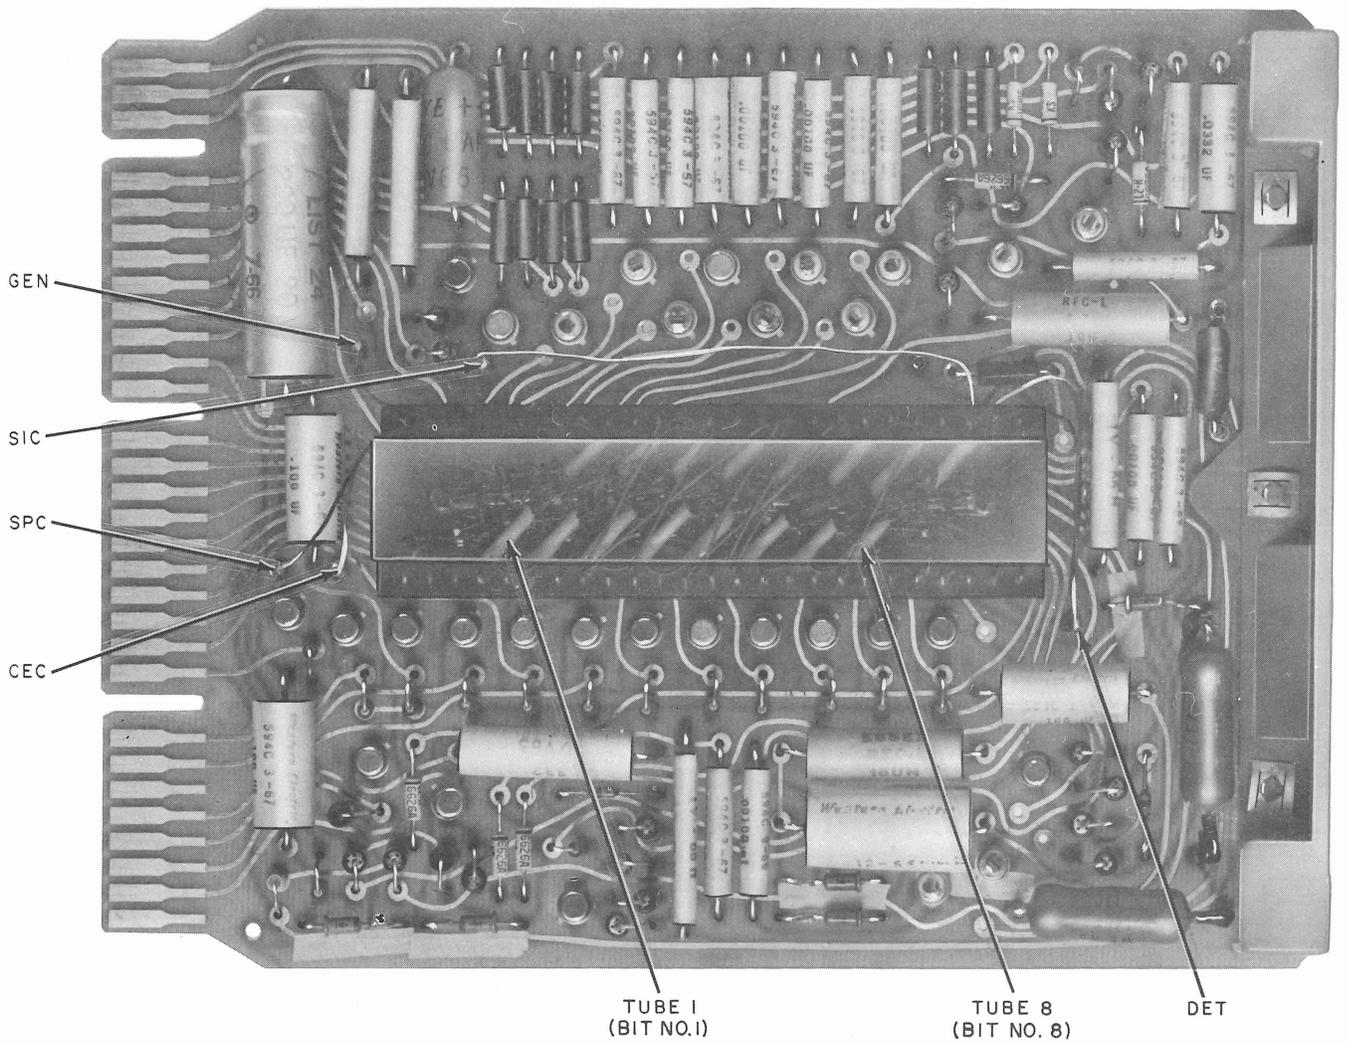

Fig. 2—CP AR37—Location of Terminals for Wiring Shift Register
**3.02** The CP AR37 should be positioned as shown in Fig. 2. It is suggested that the encoding of the shift register be performed on a flat surface properly protected.
- (3) Cut three pieces of polyurethane insulated No. 30 to No. 36 American Wire Gauge (AWG), or equivalent, in two-foot lengths.
- (4) Connect an end of one above-mentioned conductor (3) to the GEN terminal (Fig. 2).
- (6) At the completion of threading, remove the excess length of wire and connect the free end of this conductor to the SIC terminal (Fig. 2).
- (7) Connect one end of another above-mentioned conductor to the SPC terminal (Fig. 2).
- (9) At the completion of threading, remove the excess length of wire and connect the free end of this conductor to the DET terminal (Fig. 2).
(12) At the completion of threading, remove the excess length of wire and connect the free end of this conductor to the DET terminal (Fig. 2).